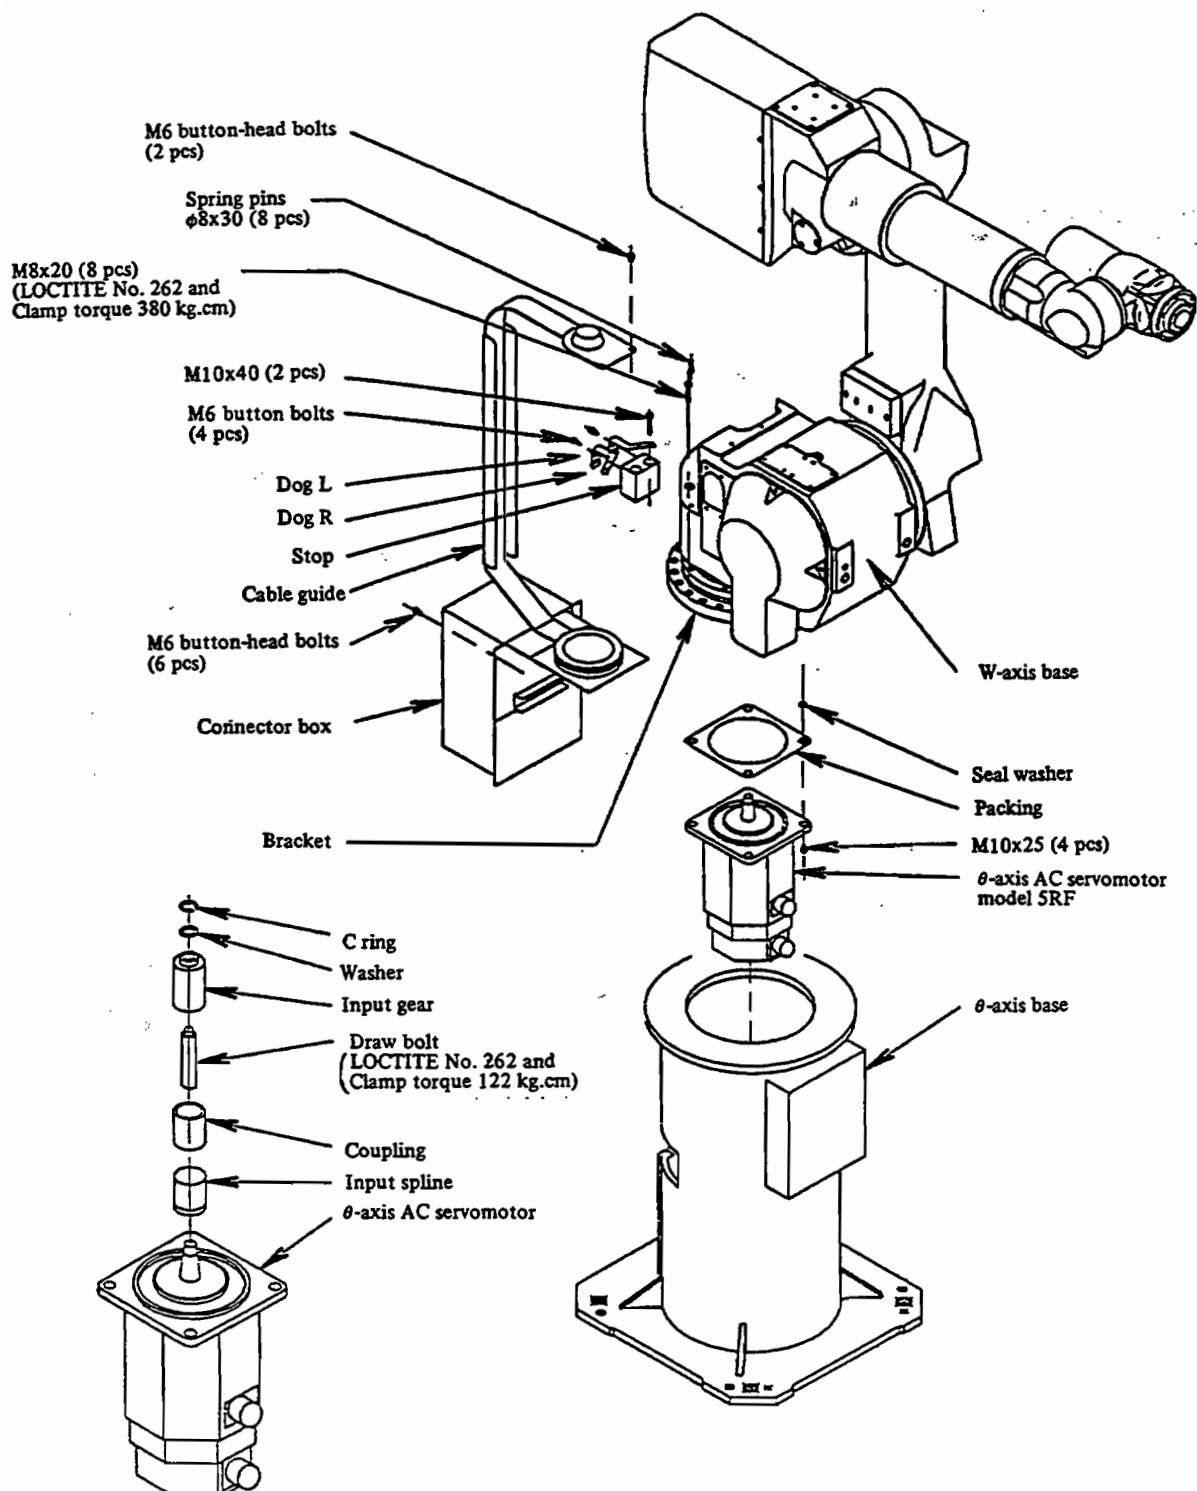

Fig. 5.1 (a) Replacing θ -axis motor (S-10)
- ① Remove two bolts mounting the upper part of the cable guide to the W-axis base.
- ② Remove the stop and the dog from the bracket.
- ③ Remove the connector box and remove the connector of the θ -axis motor.
- ④ Remove eight M8x25 bolts and two $\phi 8$ x30 spring pins mounting the bracket to the θ -axis base, and lift the mechanical unit. At this time, take care not to apply excessive force to the cable, cable guide, and connector box.
- ⑤ Remove four M10x25 motor mounting bolts, and pull out the motor downward.
- ⑥ Remove the C-ring, washer, input gear, coupling, and the draw bolt, and then pull out the input spline.
- ⑦ Replace the motor and reassemble reversing the above procedure. Apply LOCTITE lightly to the bolts and the draw bolt pins removed in steps ④ - ⑥. Tighten bolts and draw bolts with the specified torque. (Refer to Fig. 5.1)
- ① Press the W-axis against the mechanical stop or support the axis so it cannot move.
- ② Remove the side cover from the W-axis base and then the W-axis motor connector.
- ③ Remove four M10x25 bolts and the motor.
- ④ Remove the C-ring and pull out the input gear and the coupling. Remove the draw bolt and pull out the input spline. (See Fig. 5.1.)
- ⑤ After replacing the motor, reassemble reversing the above procedure. Apply LOCTITE lightly to the bolts, the draw bolt, and pins removed in steps ③ and ④. Tighten bolts with specified torque (See Fig. 5.1/5.3).